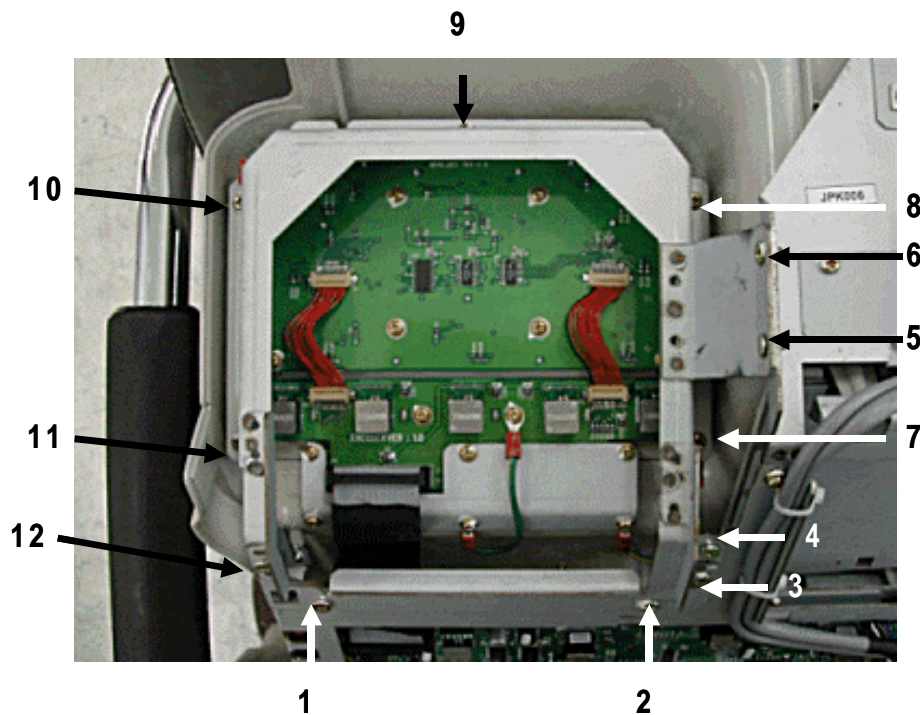

Figure 8-39 Unscrew 12 screws from the Menu key brkt
- 1.) Unscrew 12screws (1-12) from the manu key prefix bracket to remove it. Refer to Figure 8-39.